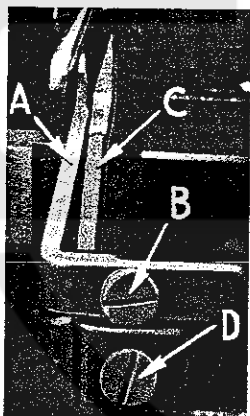

Fig. 6
Set rear needle guard (A, Fig. 6) as high as possible, without interfering with either lower looper or movement of lower knife holder, but still in position to deflect needle or needles forward $.002$ -. $.004$ inch. Screw (B) is used to set rear needle guard. Make sure there is no interference between rear needle guard and lower looper.
Assemble front needle guard (C, Fig. 6). When lower looper is springing needle off back guard, set front needle guard as close as possible to needle without touching. Screw (D) is used to adjust and set front needle guard. After this setting make sure